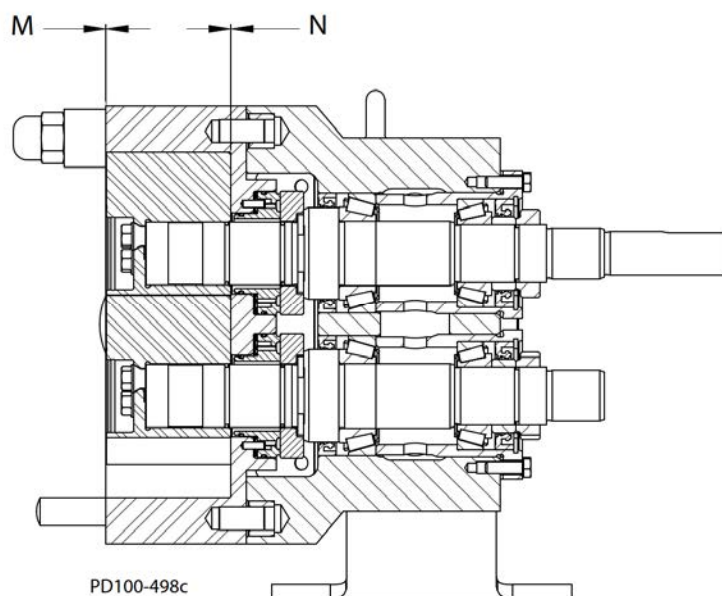

Fig. 59: Measure Clearance
5. Check the resulting back face and front face clearance (items M and N in Figure 59). Adjust the shims as necessary.